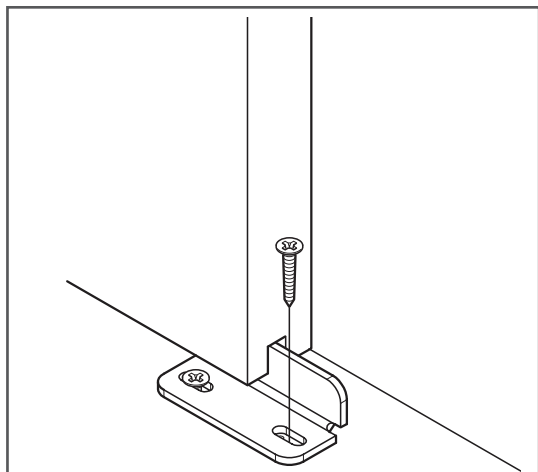

Figure 13
20. Install the second 1" phillips screw (provided) using a drill with a phillips bit (Figure 13).